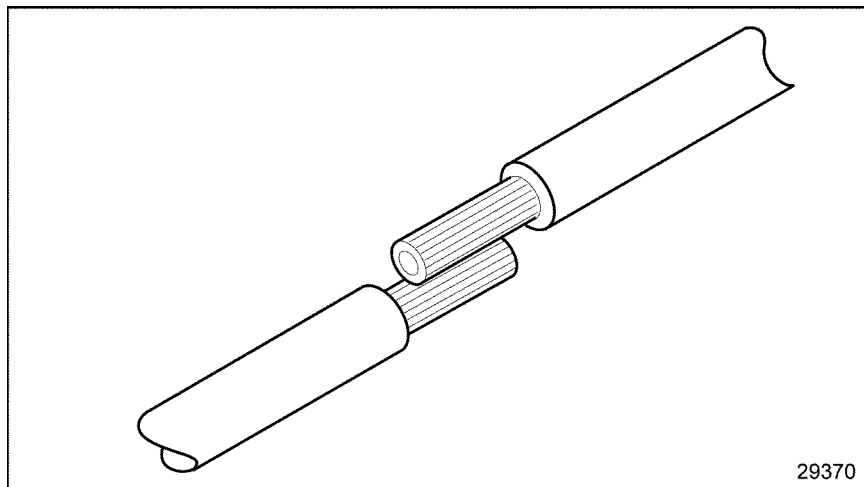

Figure 16-41 Positioning the Leads
1. Position the leads, so one overlaps the other. See Figure 16-41.